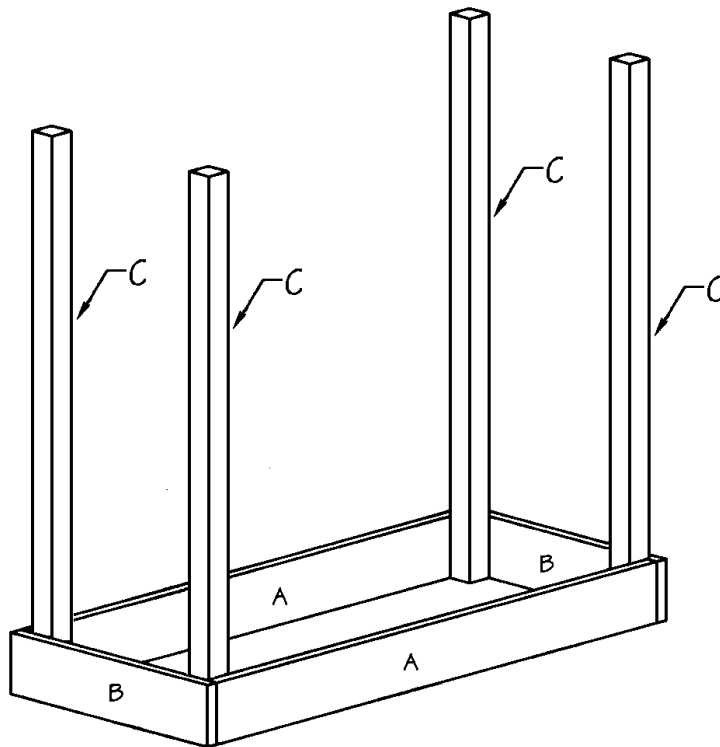

Figure 2
6. Place the four Legs (C) inside the corners of the assembled rectangle designated “Top”, as shown in Figure 2. Apply glue to the meeting surfaces, and screw through the Short and Long Sides (A and B) into both sides of each Leg (C), using two 2” wood screws on each joint.